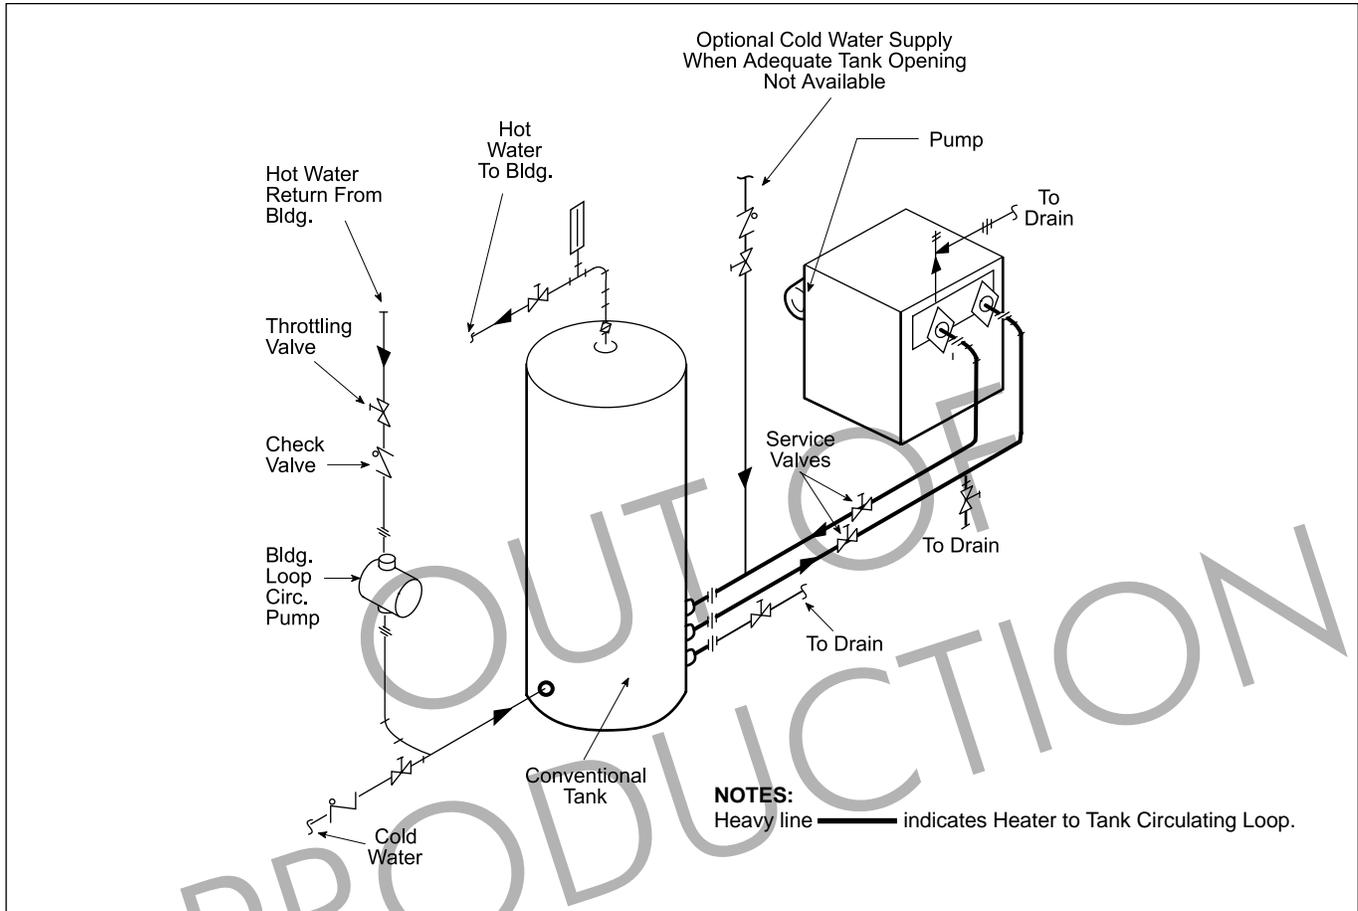

Figure 12. Hot Water Supply System with Vertical Tank.
1. The factory provided pump on PW heaters are sized to provide proper circulation through the heater and heater-to-tank circulation loop (see Figures 12, 13 and 14). If the heater-to-tank circulation loop **does not contain more than 6 elbows and 30 feet of pipe**, use pipe fittings in the loop no smaller than the following: